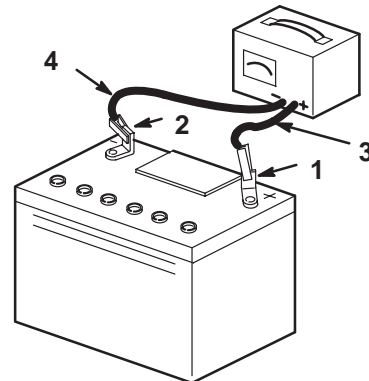

Figure 11
7. When the battery is fully charged, unplug the charger from the electrical outlet, then disconnect the charger leads from the battery posts (Fig. 11).